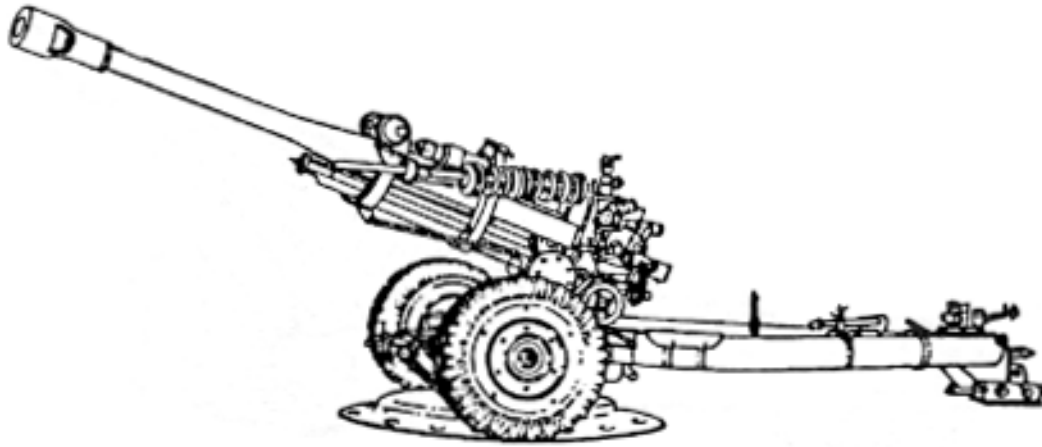

Figure 3 M119 light towed howitzer
(1) Model. A model designation, assigned to identify a particular design, is included in the marking. Model designations consist of M, XM, or T, and an Arabic numeral(s). Modifications are indicated by adding A or # and an Arabic numeral. M1A1, for example, indicates the first modification of an item for which the original designation was M1. XM409E5, as another example, indicates the fifth modification of an item originally designated XM409.
(2) Ammunition lot number. When ammunition is manufactured, an ammunition lot number, consisting of the manufacturer's symbol and a number, is assigned.
(3) Weight-zone marking. Projectiles are grouped into weight zones to minimize dispersion. Appropriate ballistic corrections, as shown in firing tables, may be applied. Weight zones are indicated on projectiles by means of one or more squares, with or without a triangle of the same color as the marking. Two squares indicate standard or normal weight (for the 105-mm) for which no weight corrections are needed when computing firing data.
(4) Painting. Artillery projectiles are painted to prevent rust and to provide a ready means of identification. Two systems of color coding are in existence. The color codes used are given in Table 3.
e. Authorized rounds. Only authorized projectiles will be used in this weapon. Projectile-fuze combinations for authorized rounds are given in Figure 3. Projectiles of current manufacture, which have deep fuze cavities and supplementary charges of TNT, are suitable for use with the long intrusion proximity (variable time [VT]) fuzes. Deep-cavity projectiles are identified by W/SUPPL CHG marked on the projectile.